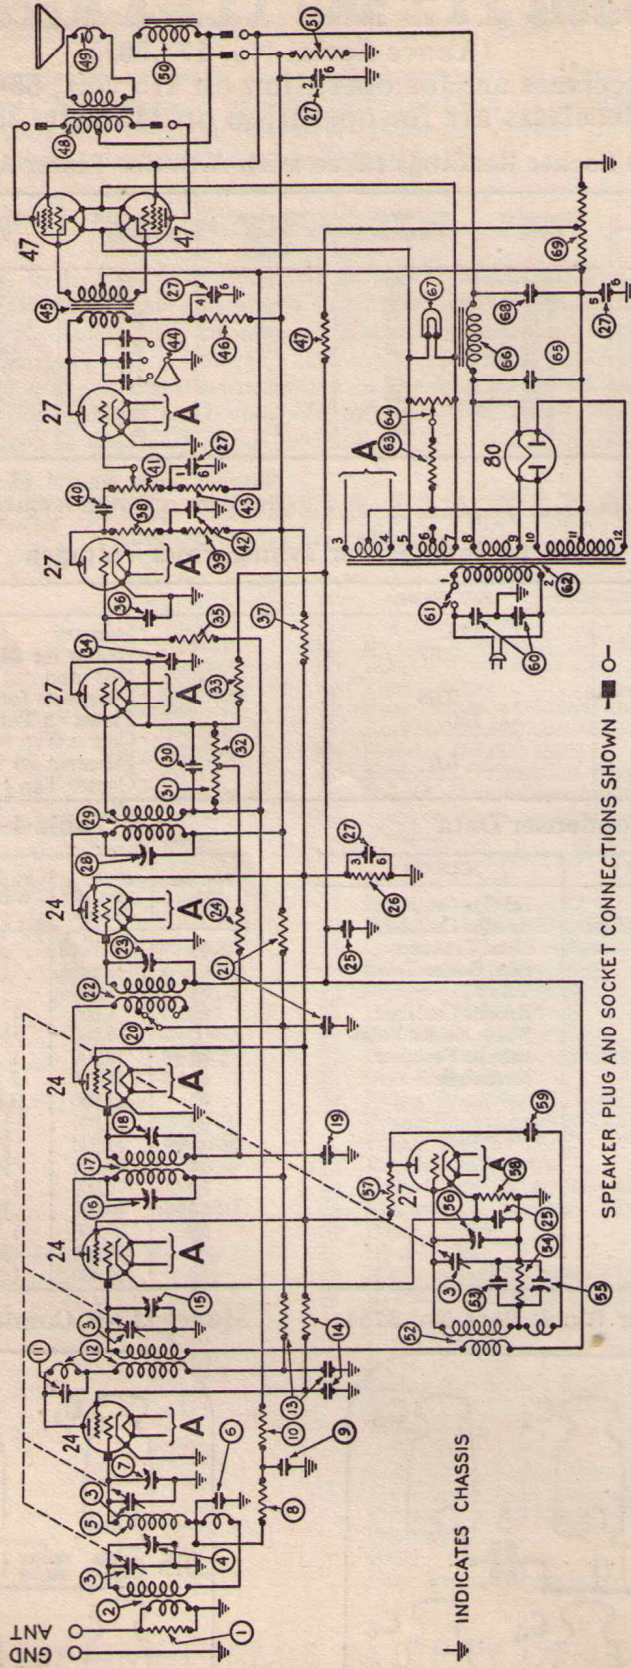

Fig. 3
The Range Switch, No. ⑳ in Fig. 3, is placed in the NORMAL position when the Receiver is shipped. This gives great distance range and is the setting which will be found most satisfactory in practically all locations. In places far from broadcasting stations, however, the Range Switch may be changed to the MAXIMUM position. This will make the Receiver super-sensitive and will give extreme distance range. Do not use the Range Switch in the MAXIMUM position if there are one or more powerful broadcasting stations near you. In any location there will be less noise between stations with the Range Switch in the NORMAL position.